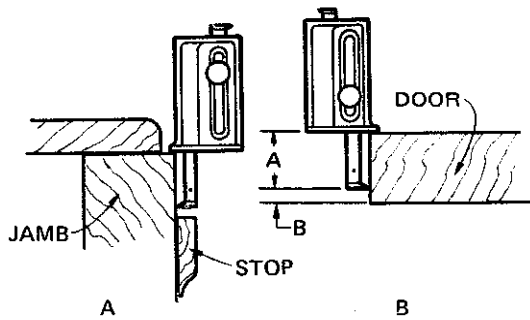

Fig. 4-13 Laying out the jamb and door
4. For laying out the door, place the gauge against the face of the door. Holding it square to the edge, move it along the edge using enough pressure so that a sharp mark is made (B, figure 4-13).
NOTE: The same process is used for laying out the jamb. See A, figures 4-13, 4-14, and 4-15.